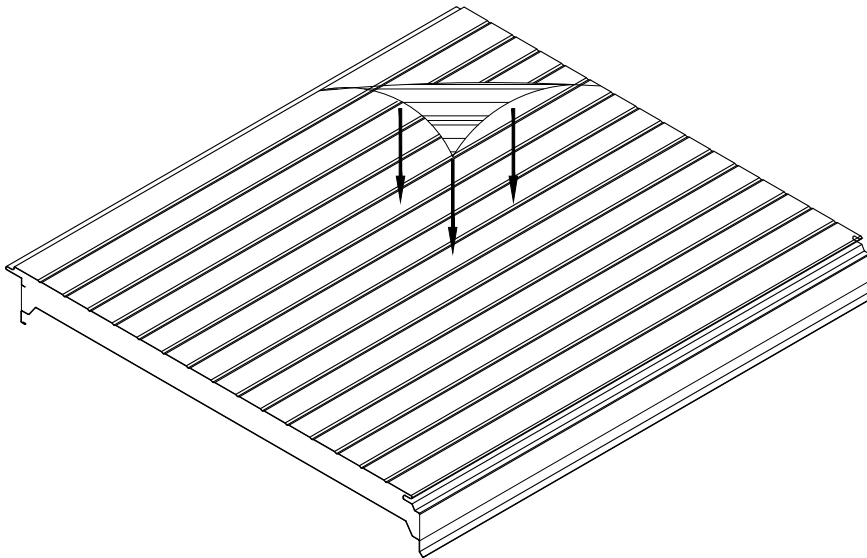

FIGURE 4
- 8.4 THE BEST WAY TO REMOVE THE PROTECTIVE PLASTIC FILM IS TO START AT A PANEL CORNER AND PEEL OFF AT A 45° ANGLE (SEE FIGURE 4, BELOW).